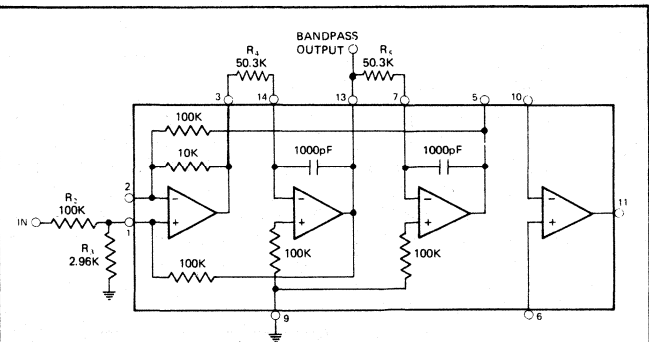

Figure 6. Bandpass Filter Example
- This completes the filter design which is shown in Figure 6. To choose the nearest 1% standard value resistors either 49.9K or 51.1K ohms could be used; likewise one value of 49.9K and one of 51.1K could be used giving the geometric mean of $\sqrt{R_4 R_5} = \sqrt{49.9\text{K} \times 51.1\text{K}} = 50.5\text{K}$ which is even closer. But due to the filter $\pm 5\%$ frequency tolerance it may be better to hold R_4 constant while varying R_5 to tune it exactly.